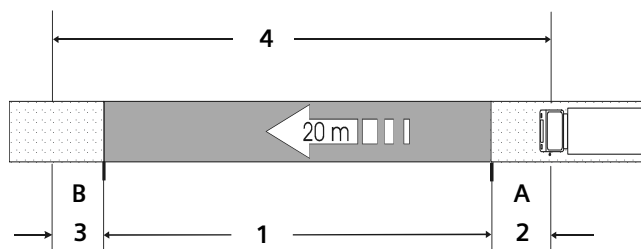

Fig. 2: Measuring distance "manual measurement"
2. the end mark **(B)** 20 metres apart, see fig. 2.